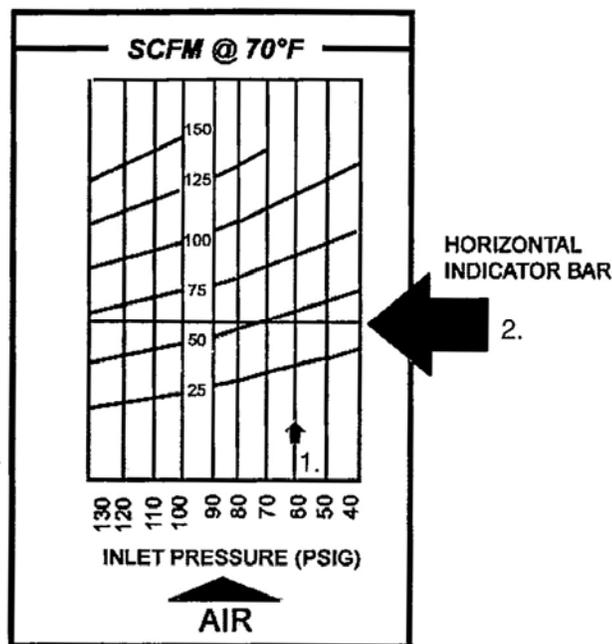

Figure 1. Compressed Air Flow Meter and Scale
- c. Set the high pressure atomizing air to the proper flow rate. Consult supplemental data for details. See Figure 1 for details on reading compressed air flow.